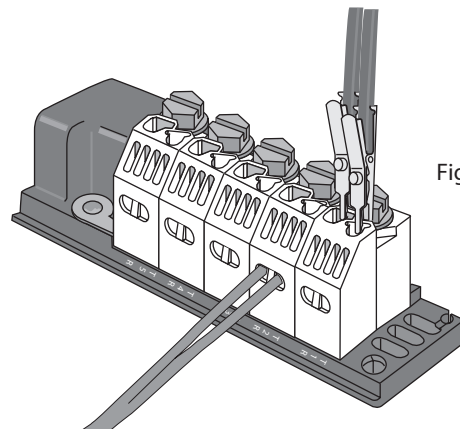

Figure 12
2. The test port in the top of each driver module uses CommScope GelGuard sealant technology for environmental protection. To test to the C.O. or to access a talk pair, insert the test clips into the test ports with the driver in the "down" position. (Fig. 12)